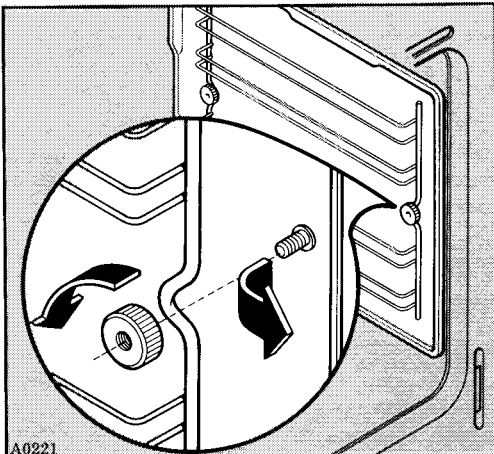

Fig. 7
2. Unscrew the ring nuts securing the side runners, and remove the runners (Fig. 7).